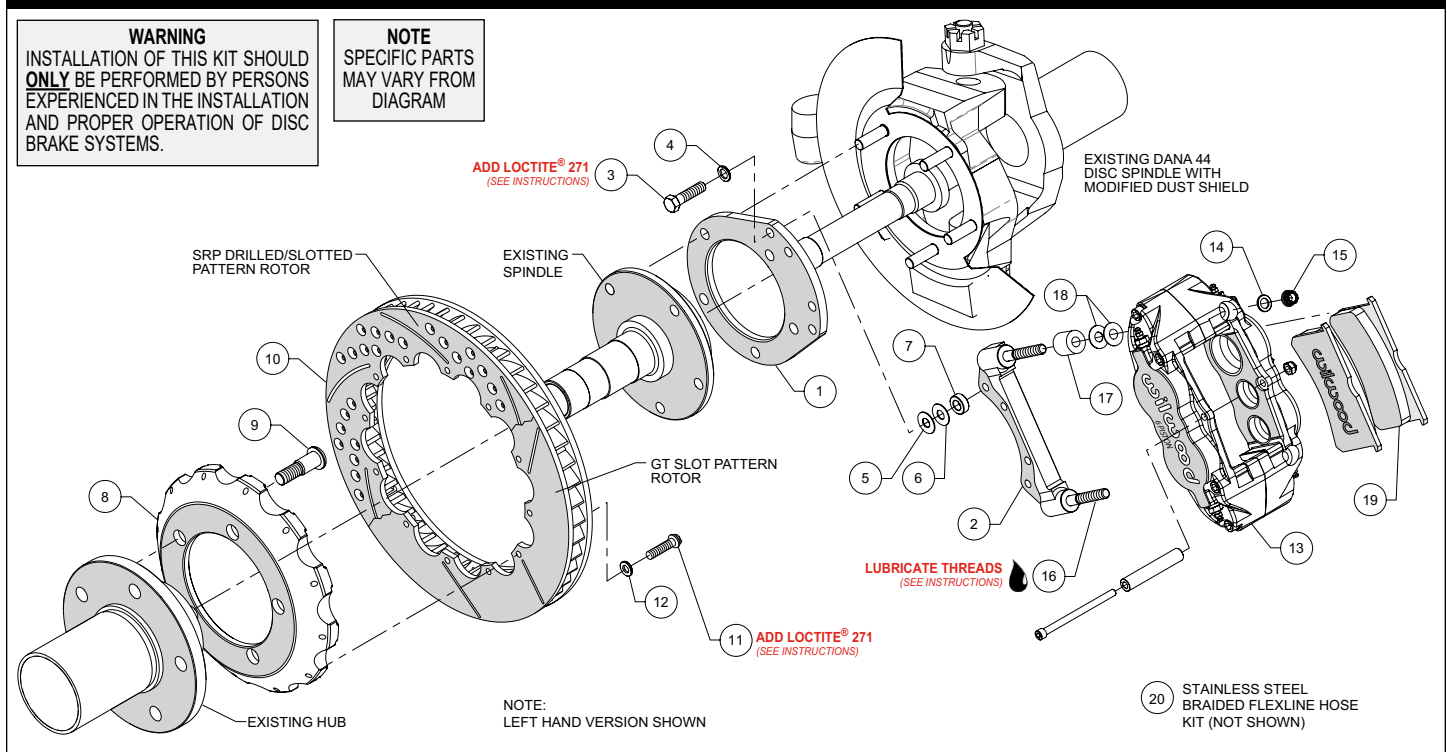

Figure 1. Typical Installation Configuration
NOTE: Numbers in parenthesis refer to the parts list and Figure 1 on the preceding pages.
- Orient the flat mount bracket (1) as shown in Figure 1 and Photo 1. Install the OEM spindle over the bracket and secure with OEM nuts, Photo 2. Temporarily tighten the mounting nuts. **NOTE:** The bracket must fit squarely against the mount bosses on the upright. Inspect for interference from casting irregularities, machining ridges, burrs, etc. Remove nuts one at a time, apply red *Loctite*® 271 to the bolt threads and torque nuts to OEM specification.
- The caliper mount bracket (2) should initially be installed with clean, dry threads on the mounting bolts. Orient the bracket as shown in Figure 1 and Photo 3, and install using mount bolts (3) and washers (4). Initially place one .035" thick shim (5) and spacer (7) on each bolt between the flat and caliper brackets, Figure 1. Temporarily tighten the mounting bolts. Later, after the caliper alignment has been checked, the mount bolts will be secured using red *Loctite*® 271.
- Orient the hat (8) and the OEM hub as shown in Figure 1 and Photo 4. **NOTE:** The hat must fit flush against the hub or excessive rotor run out may result. Install the wheel studs (9) thru
- Orient the rotor (10) and the hat/hub assembly as shown in Figure 1 and Photo 5. Attach rotor to hat using bolts (11) and washers (12). Using an alternating sequence, apply red *Loctite*® 271 to the threads, and torque to 155 in-lbs. For an added measure of security,
•**NOTE:** This kit contains distinct right and left hand calipers that must be mounted in a specific direction, as described below. Lubricate the caliper mounting studs (16) with lightweight oil. Initially place two .035" thick shims (18) and spacer (17) on each stud as shown in Figure 1 and Photo 6. Mount the caliper (13) onto the bracket (2) using lock nuts (15) and washers (14), Figure 1. Temporarily tighten the lock nuts. Ensure that the caliper is mounted so the largest pistons are at the rotor exit end of the caliper, in relation to the direction of the rotor. View the rotor through the top opening of the caliper. The rotor should be centered in the caliper, Photo 7. If not, adjust by adding or subtracting shims (5 and/or 6) between the spindle bracket and caliper bracket. Always use the same amount of shims on each of the four mounting bolts. Once the caliper alignment is correct, remove the bracket to bracket mounting bolts (3) one at a time, apply red *Loctite*® 271 to the threads, and torque to 35 ft-lb.